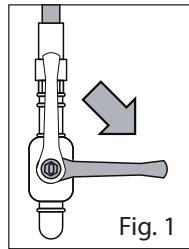

Fig. 1
- Close the cut-off cock upstream the machine (Fig. 1);
- Close the cut-off cock upstream the machine (Fig. 1).